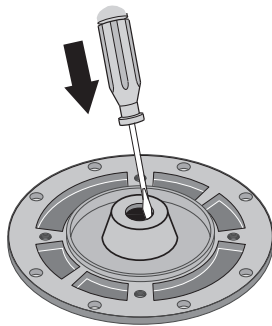

FIGURE 15 – TAP OUT SEAL
5. Place seal plate half face down on flat surface and tap out stationary half of seal (Figure 15).